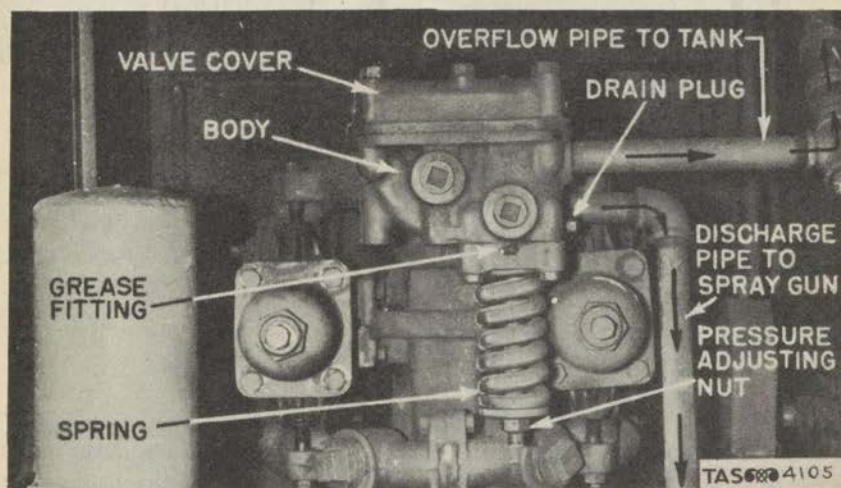

Figure 137. Automatic Pressure Controller.
d. Automatic pressure controller. (1) General. The pressure controller is a device that maintains a desired maximum pressure in the discharge lines. When the discharge is shut off the overflow valve automatically opens, thus permitting the liquid to overflow under no pressure back into the tank. Liquid enters the pressure controller from the discharge (pressure) manifold of the pump (fig. 135) and passes through the discharge check valve and out the discharge pipe to the spray guns (figs. 137 and 138). Pressure is regulated by the degree of compression of the coiled spring which holds the piston of the controller in position. Compression is adjusted by turning the pressure adjusting nut.
(2) Operation. The automatic pressure controller operates as follows: When the regulator is set at a specific pressure (usually 400 pounds with spray guns open) and spray guns are either partially or completely closed, dangerous pressures would be attained but for the fact that such increased pressure is sufficient to lift the piston in the controller against the compression of the coiled spring. When the piston is lifted the valve lifter comes in contact with the overflow valve ball, raising it off its seat and permitting a free flow of surplus liquid to pass out through the overflow valve and overflow pipe to the tank. This permits the pump to idle, while at the same time the check valve, having closed, holds 400 pounds pressure in the spray guns. The instant a spray gun is opened the overflow valve closes and the check valve opens, thus maintaining a constant pressure in the spray guns.